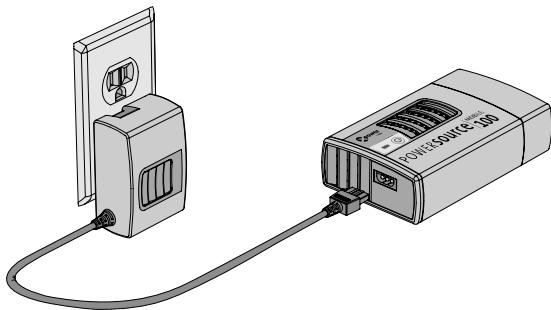

Figure 4 Charging the unit with AC power
3. Plug the AC charger into a standard AC wall outlet. See Figure 4.